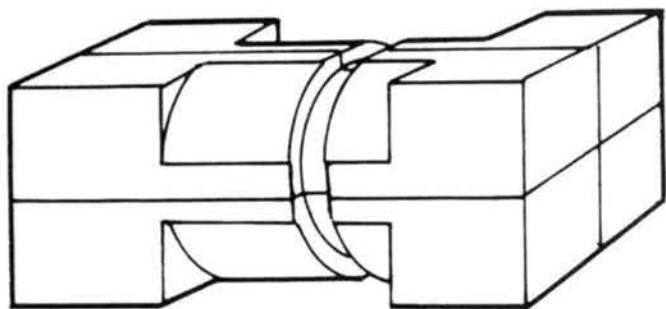

Figure 6
7. Cut to the proper depth with a parting tool or a narrow scraper (figure 6). To measure depth of cut, hold a straight edge on the flat side of the turning, measuring into the cut from that reference point.